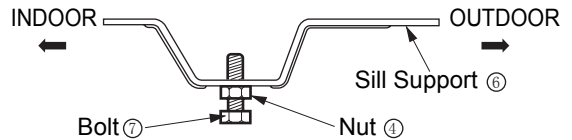

Fig. 3
3. Cut the window sash seal to the proper length. Peel off the backing and attach the Foam-PE to the underside of the window sash. (Fig.3)
3. Loosely assemble the Sill Support[®] using the parts . (Fig. 3)